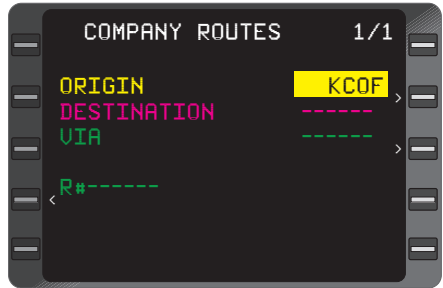

Figure 3-59a
2. Line Select Key LSR2 - If you desire to change the Origin entry, DEPRESS to position cursor over only **ORIGIN** field on the **COMPANY ROUTES** page, and type in desired identifier. (Figure 3-59a) If the cursor is over both fields, and the Origin is correct, proceed to the next step. (Figure 3-59b)